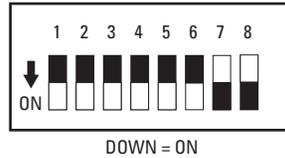

Figure 7. KBD300A Switch Settings: DS ControlPoint Operation
- 3 **Keyboard Data and DIP Switch Cover:** Contains the keyboard configuration switches. Use the switches to configure the keyboard address and operational mode (refer to Figure 7).